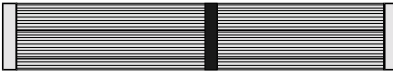

Figure 1-1 IDE cable
- One 40-pin Ultra DMA-66 IDE connector ribbon cable (Figure 1-1)